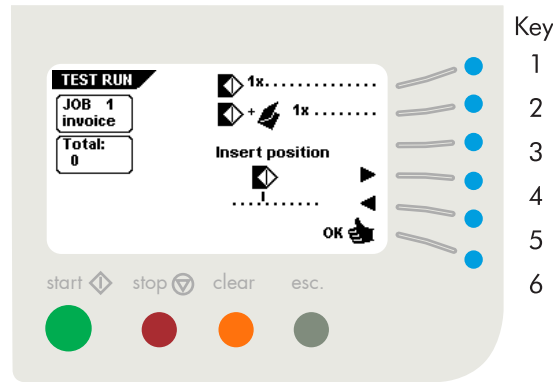

Fig. 21
Press key 3 in the "main menu (1)" to enter the "test run" menu (Fig. 21). The "test run" menu shows the following functions:
- feed one envelope onto the insert table (key 1).
- make one insert (key 2).
- set the insert position (= envelop stop position) to the right (key 4).
- set the insert position to the left (key 5).
- save the insert position setting with "OK" (key 6) which will get you to the "main menu (1)".